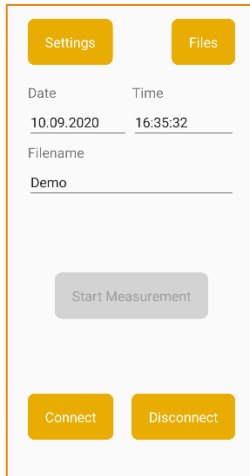

Figure 8 – Home screen of DLHS app
The DLHS device will transmit a Wi-Fi signal when turned on. The android device with the DLHS app installed has the **'Connect'** button to connect automatically to the device as shown in Figure 8 (an initial pairing via accessing the Wi-Fi settings on the android device is required).
- a. The saved file can be viewed by pressing 'Files' button in the home page (Figure 8) or the 'View Meas.' Button in the recording screen (Figure 11).